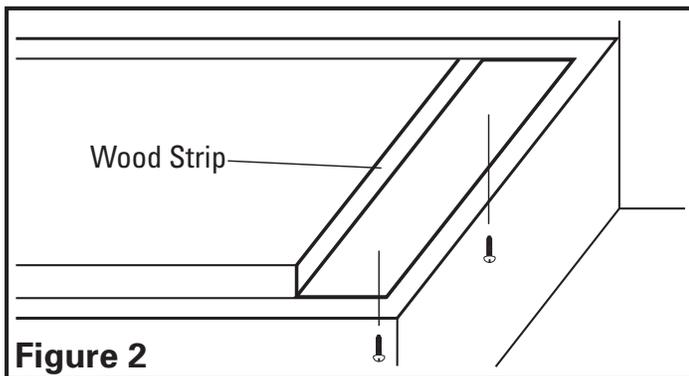

**Figure 1**
- Remove the following items from the hood and place in a safe place until needed (**Figure 1**):